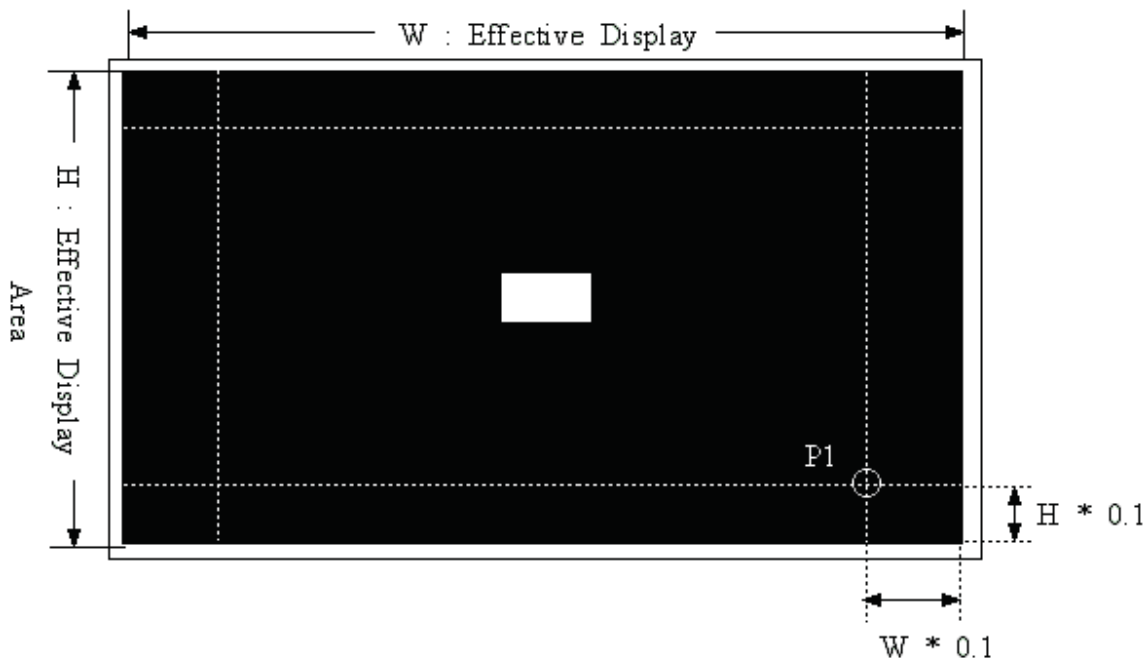

Figure-4. Measurement point
* 2. Contrast Ratio is calculated from the display Luminance and the non-display Luminance value. Display condition is shown in Figure-4.
1. For mass production test purposes, it is recommended to measure just 1 point, P1 of Figure.-4 on display pattern of Fig.-3.
(5) Ambient Light : Dark Room (<2 lux)